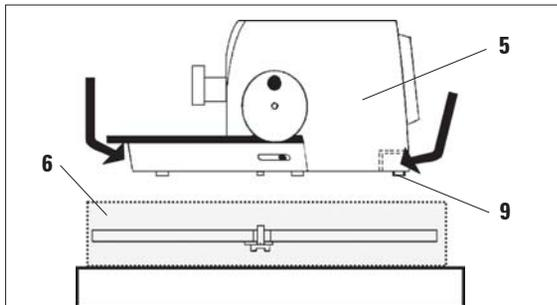

Fig. 8
- By holding the instrument (5) at the front by the baseplate, and at the rear by the recessed grip (Fig. 8), lift it out of the molded cushion (6) of the packaging and place it on a stable laboratory table.